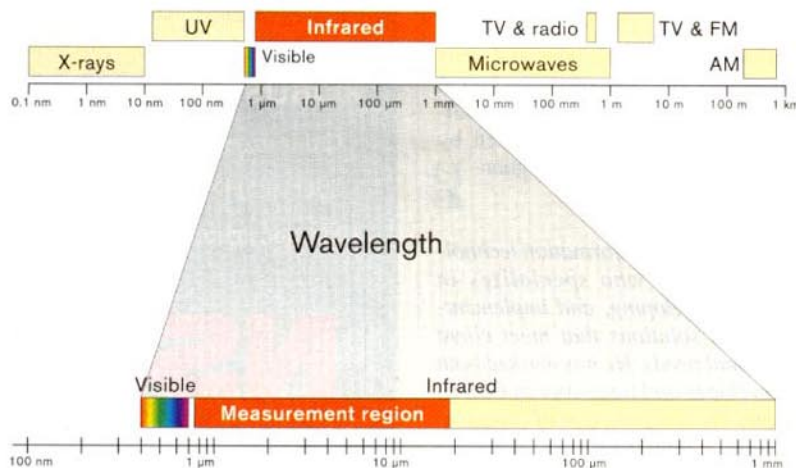

Fig. 1. Only the 0.7 to 18-micron band is used for infrared temperature measurement.
All matter above absolute zero continuously emits energy in the form of infrared (IR) radiation. This emitted energy is detectable and quantified as an object's temperature through the technique of infrared thermography. The human eye can see in a very narrow range of the electromagnetic spectrum, in wavelengths from 0.4 to 0.7 microns. The infrared portion of the spectrum ranges from 1 to 100 microns (Fig. 1).